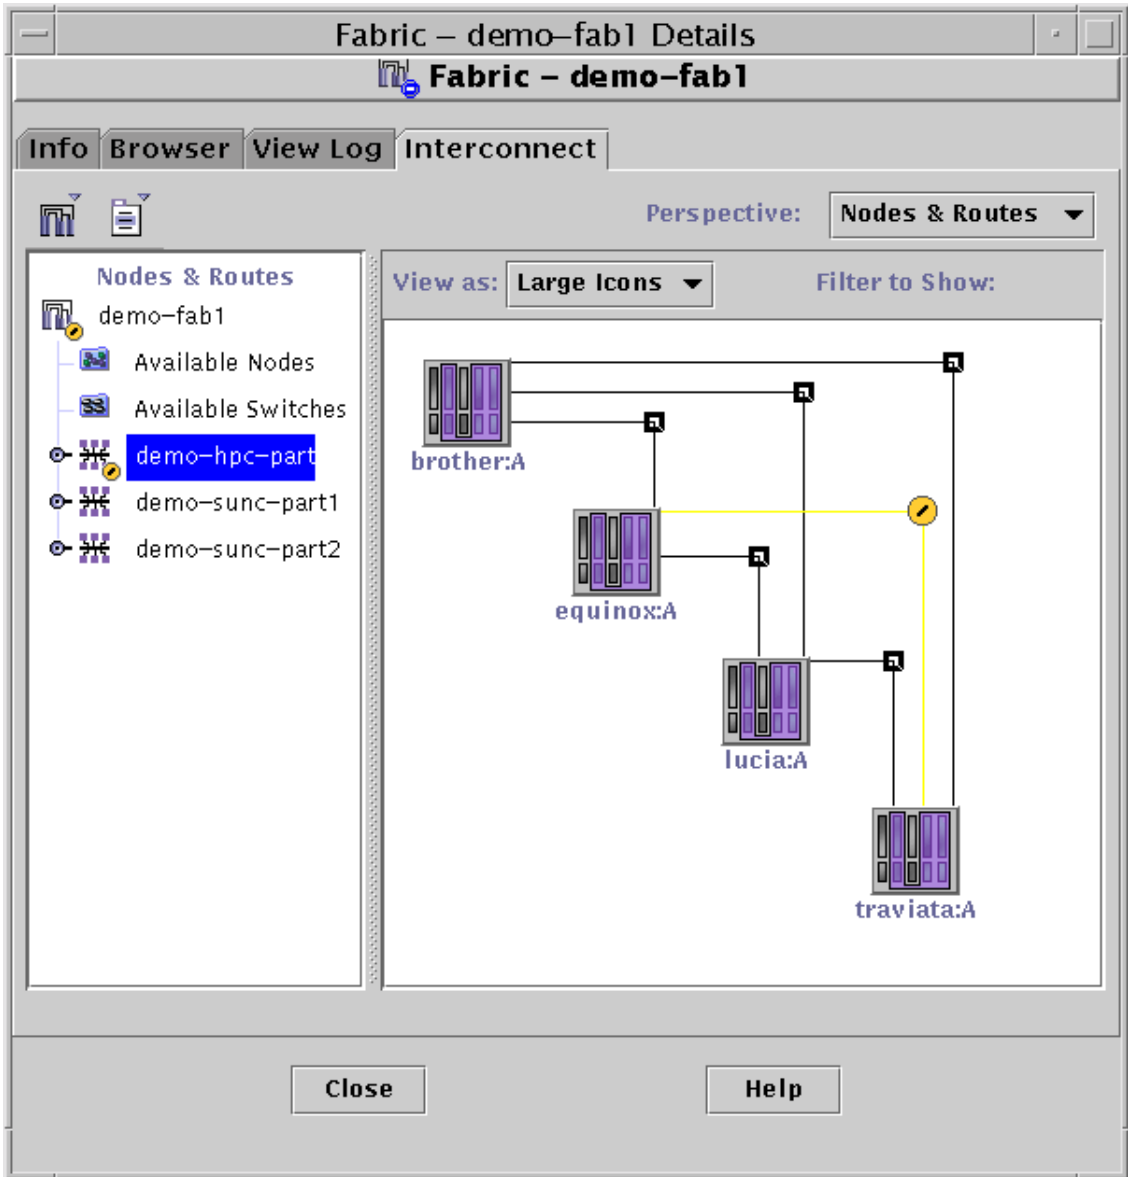
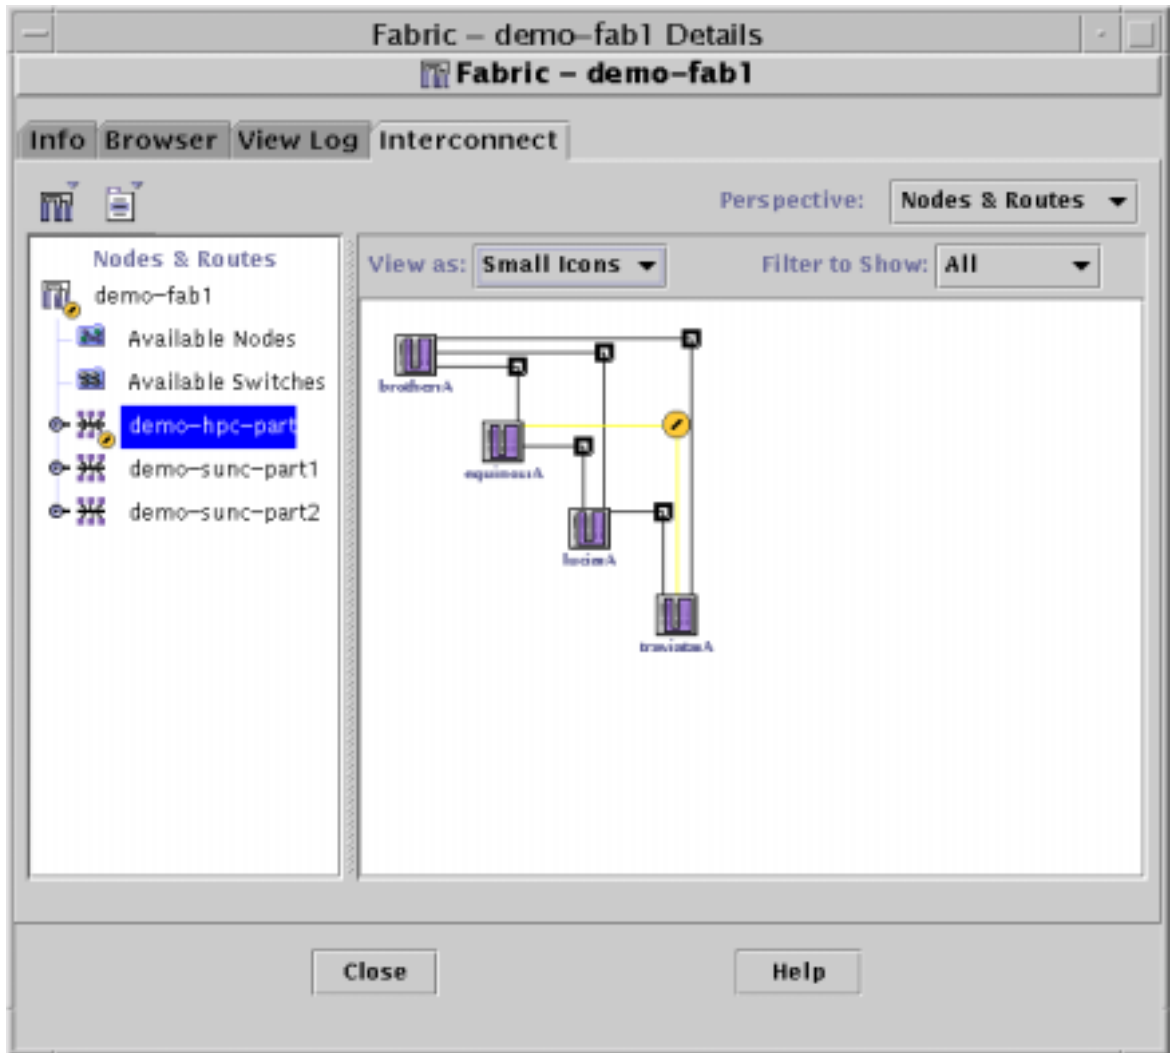

FIGURE 9-1 Fabric Console for Fabric Named demo-fab1
FIGURE 9-3 Four-Node Partition (Small Icons)
Sun MC displays a Details window when you double-click a fabric icon in the Sun MC Default Domain window. The fabric Details window includes menus of Sun Fire Link software commands. Taken as a whole, the fabric Details window is also known as the *FM console*. The FM console for the fabric named `demo-fab1` is shown in FIGURE 9-1.
You can display the components the Topology panel with large icons or small icons (as shown in FIGURE 9-1 and FIGURE 9-3, respectively).
- OK – No links in the route have a Severity greater than OK. The route is colored black. A standard route access point (black square) is shown on the route. For example, the routes shown in FIGURE 9-3, connecting node D3212-0:A to D3212-2:A, and node D3212-1:A to D3212-2:A are OK.
- Degraded – One or more links in the route has a Severity greater than OK, or the route does not contain enough links to meet the partition's striping requirements. The route is colored yellow. A standard Sun MC Warning icon replaces the route access point. For example, the route between D3212-0:A and D3212-1:A in FIGURE 9-3 shows a degraded condition.
The Route Properties dialog box can help you to find out what failure is causing the route to be marked degraded or failed. For example, double-clicking on the degraded route in FIGURE 9-3 produces the following dialog box.